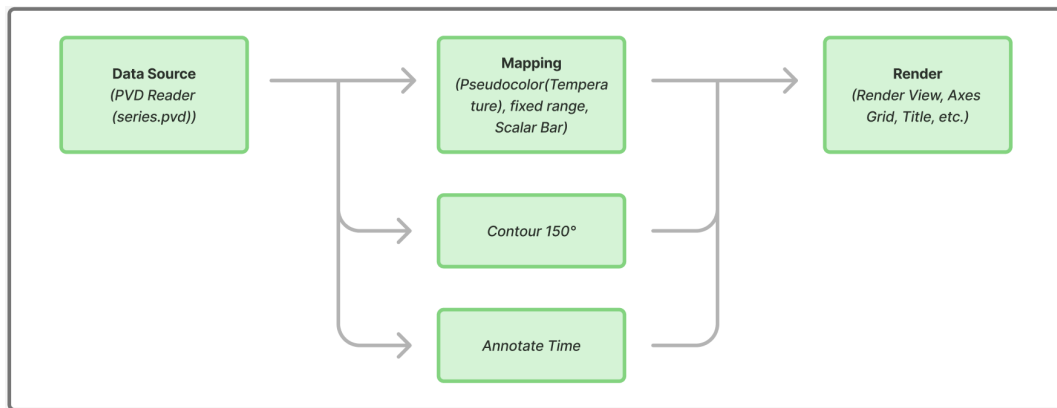

Figure 2: Pipeline of the data visualization process.
This implementation (almost completely) mirrors the Jacobi pseudocode provided by the University of Amsterdam² and is depicted in Figure 2. The steps are: (1) initialize the lattice and set Dirichlet values on the outer edges as well as on the central hot-square mask; (2) iterate Jacobi sweeps using west/east/north/south neighbours while tracking δ each sweep; (3) output a snapshot at the chosen cadence (for ParaView: `.vti` plus a `.pvd` time collection); and (4)
2. For the full pipeline in ParaView, the solver writes VTK-XML ImageData files (.vti) together with a .pvd collection so the sequence loads as a single time-aware source. In ParaView, the pipeline follows the Haber&McNabb model [3], also depicted in Figure 2: (1) the data source obtained through the code (flowchart described in Figure 2), (2) the mapping, as well as the additions of the contour and the annotating of time, and finally (3) rendering it all within Paraview.